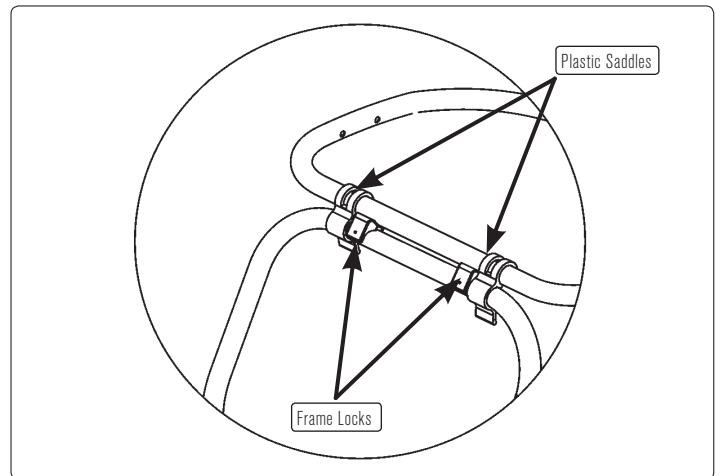

FIGURE 2
2. Rotate frame locks and snap onto rear tube. **FIGURE 2**